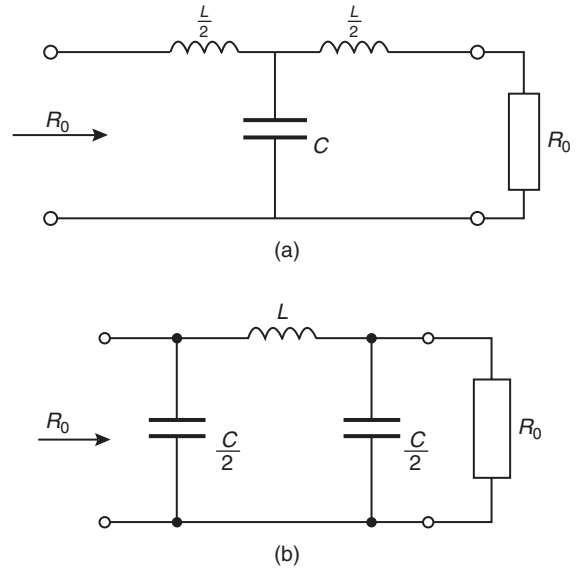
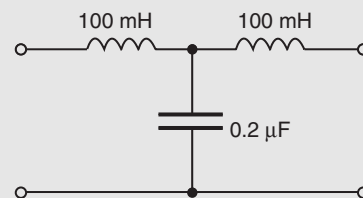
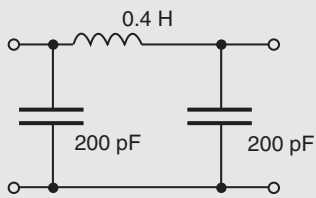
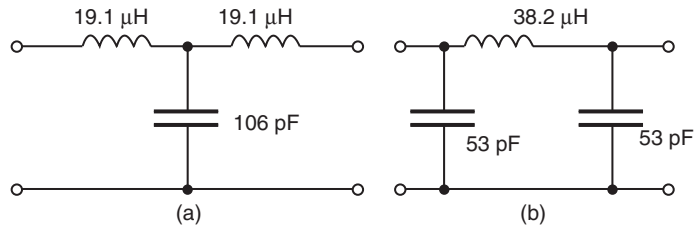

Figure 17.7
Figure 17.8
Figure 17.9
Figure 17.10
A low-pass symmetrical T-network and a low-pass symmetrical π -network are shown in Fig. 17.7. It may
Problem 1. Determine the cut-off frequency and the nominal impedance for the low-pass T-connected section shown in Fig. 17.8.
Comparing Fig. 17.8 with the low-pass section of Fig. 17.7(a), shows that:
Problem 2. Determine the cut-off frequency and the nominal impedance for the low-pass π -connected section shown in Fig. 17.9.
Comparing Fig. 17.9 with the low-pass section of Fig. 17.7(b), shows that:
- (a) A low-pass T-section filter is shown in Fig. 17.10(a), where the series arm inductances are each $\frac{L}{2}$ (see Fig. 17.7(a)), i.e. $\frac{38.2}{2} = 19.1 \mu\text{H}$
- (b) A low-pass π -section filter is shown in Fig. 17.10(b), where the shunt arm capacitances are each $\frac{C}{2}$ (see Fig. 17.7(b)), i.e. $\frac{106}{2} = 53 \text{ pF}$